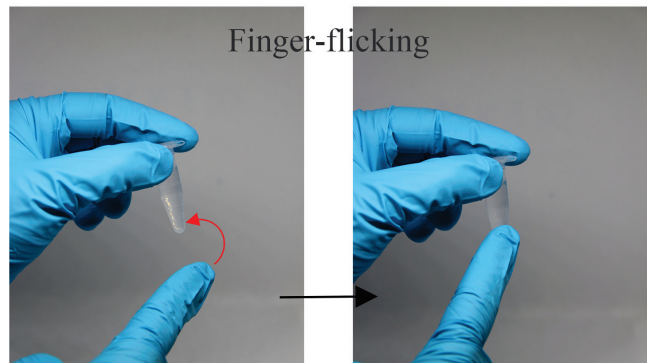

Fig. 18
12. Mix gently the contents of all the tubes by finger-flicking (Fig. 18).